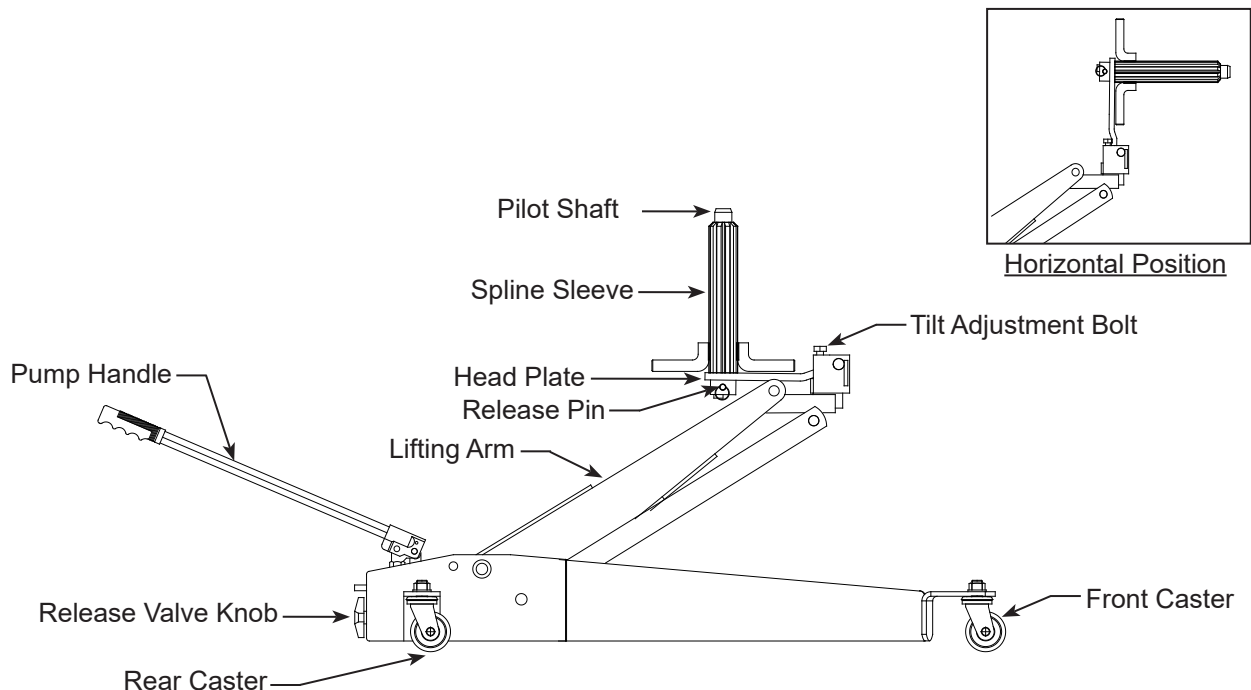

Figure 1 - Model BH7450 Components
1. Verify that the product and the application are compatible, if in doubt call Blackhawk technical service (816) 891-6390.
3. To familiarize yourself with basic operation, locate and turn the release valve knob (see Fig 1):